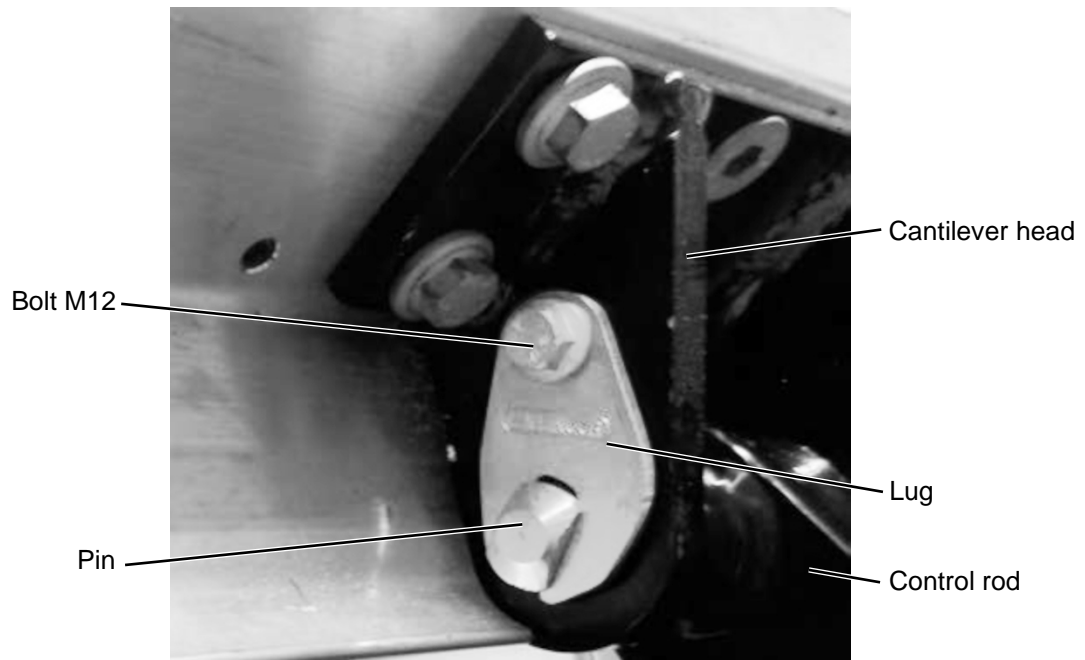

Figure 34: Pin, lug
- ▶ Put the lugs on the pins. Use a hammer to knock in the lug as far as it will go (see Figure 34, page 57).